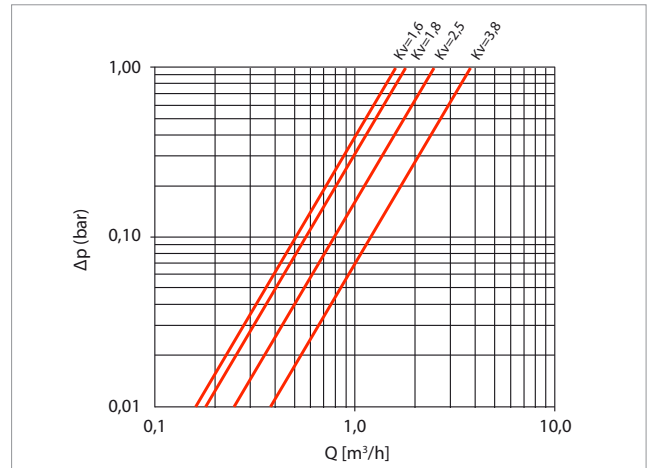

Figure 2 – Losses of pressure diagram
- Kv = 1,8 and 3,8 with mounted connection points (product code GE550Y111) respectively for SHW (sanitary hot water) and SCW (sanitary cold water), see Figure 2.
- Kv = 1,6 and 2,5 with mounted sanitary meters (product code GE550Y024) respectively for SHW (sanitary hot water) and SCW (sanitary cold water), see Figure 2.
Check the direction of flow displayed on the body of the meter, referring to the operational diagram in Figure 2.